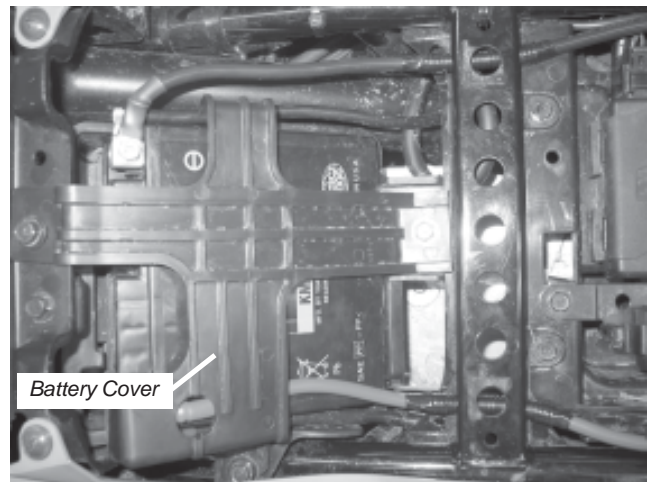

Figure 13
- c. Remove the battery cover shown in Figure 13.